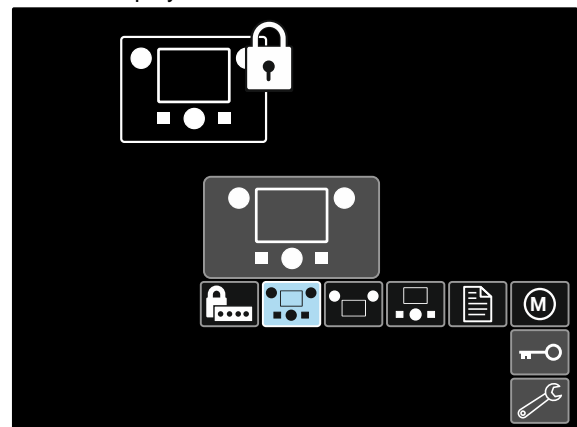

Figure 44
- Use the Set Control [11] to highlight the element which will be locked, for example All Interface Components – see the Figure 44.